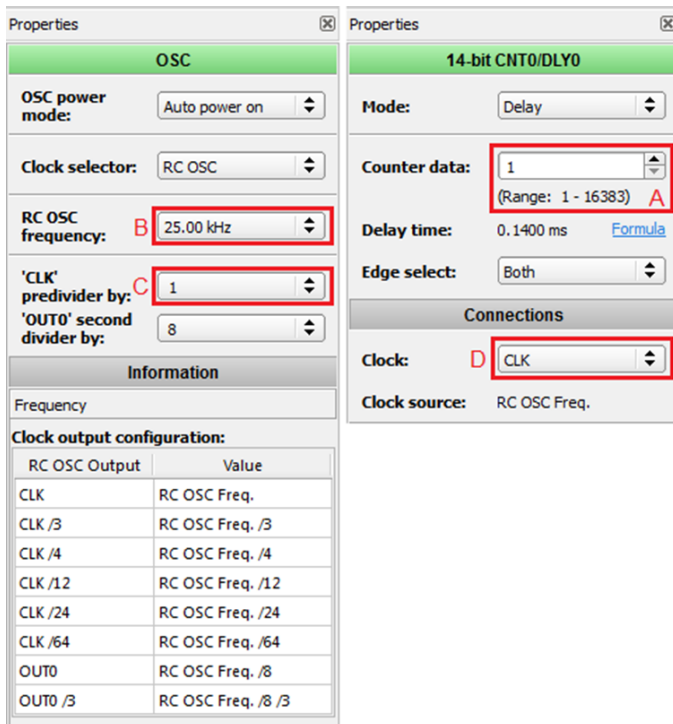

Fig.1. View of OSC and Delay blocks properties windows for SLG46721 in GreenPAK Designer
*Counter\_Data* – Counter data value of the delay cell (mark A on Fig.1);
$F_{\text{osc}}$  – oscillator frequency, in this case it is a 25kHz (mark B on Fig.1);
*pre\_div* – oscillator predivider (mark C on Fig.1);
*clk\_div* – delay clock predivider (mark D on Fig.1);